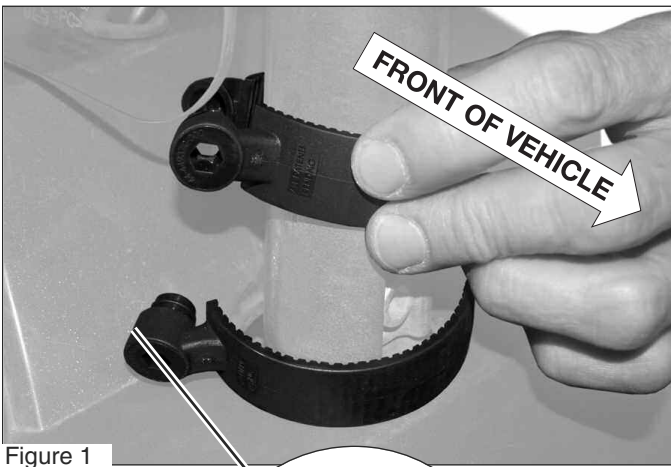

Figure 1
### Position Clamps, Place Windshield on Hood; Illustration A, Figure 1
Snap the four Wraparound Clamps (5) on the frame of the vehicle as shown in Figure 1. Orient the clamps so that the male half (with embossed part number) is toward the front of the vehicle.